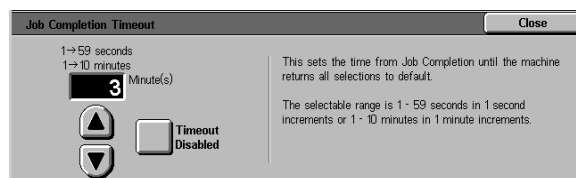

Figure 61: Sample timeout setting screen
- Use the **up** and **down** arrows (Figure 61) to increase or decrease the desired time before returning to the default settings after a job is complete or only partially programmed, entering Low Power mode, powering off, or exiting System Administration mode. Be sure to stay within the stated minimum and maximum times.